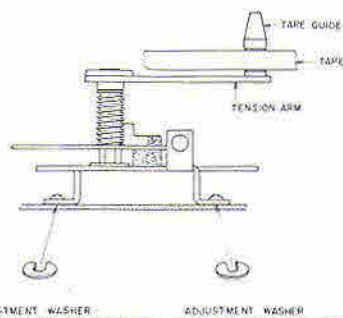

Fig. 8
## 11. TAPE GUIDE HEIGHT ADJUSTMENT (Refer to Fig. 8)
- 2) In case the tape guide is low, adjust by inserting a U Type Washer on the right side in Fig. 8, and in case it is high, adjust by inserting a washer on the left side.